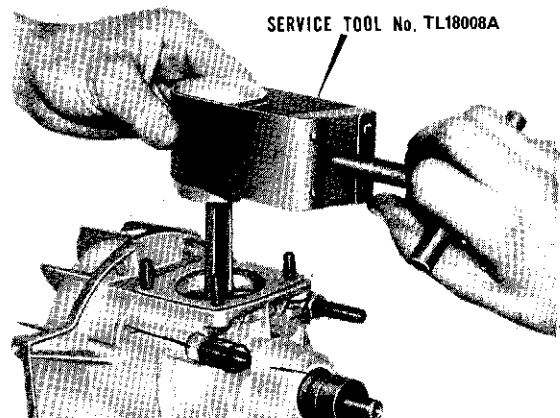

Fig. L21
12. Extract the circlip from each side of the piston with long-nosed pliers. Push out the gudgeon pin from the piston just far enough to allow the piston to be removed from the connecting rod. If the gudgeon pin cannot be removed by hand pressure, use tool shown in Fig. L21, or a suitable punch. If a punch is used, have someone support the opposite side of the piston so that the connecting rod will not be strained or bent. Put a scratch mark inside the piston so that it can be re-fitted the same way round.